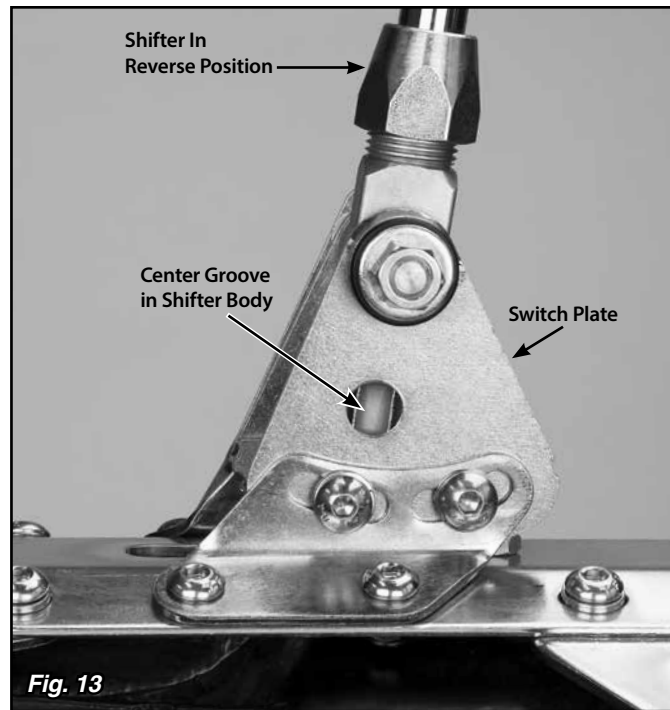
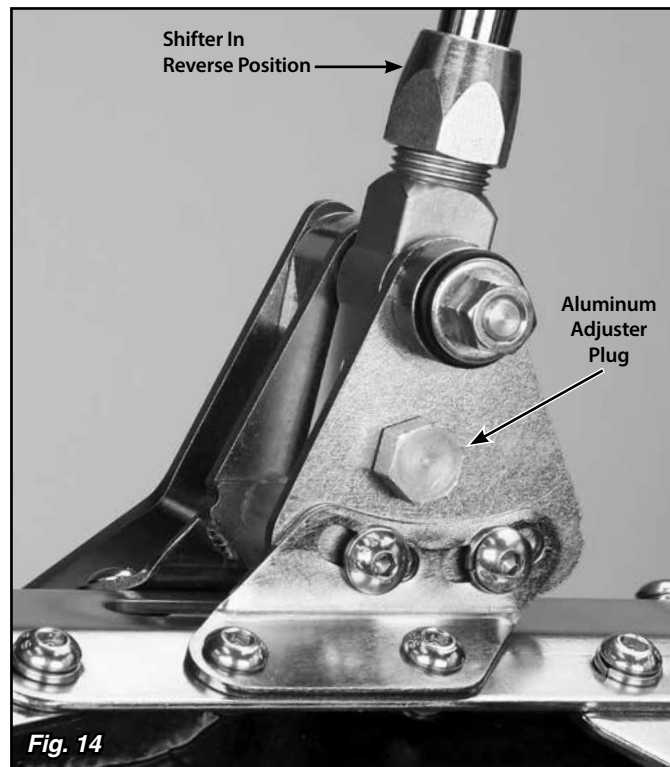

Fig. 13
Fig. 14
Step 20: Put the Shifter into the Reverse position. Reposition the switch plate so that the hole in the switch plate lines up with the center groove in the shifter body. **Fig. 13** Screw the provided aluminum adjuster plug into the neutral safety switch opening. Wiggling the switch plate slightly forward and back while you are threading the aluminum adjuster plug in will help get the shifter body centered on the adjuster plug. **Fig. 14**
- **If there are (2) connections for a neutral safety switch**, run a #12 (or heavier) stranded wire from these terminals in your fuse panel to the (2) terminals on the neutral safety switch. This completes the neutral safety switch wiring.